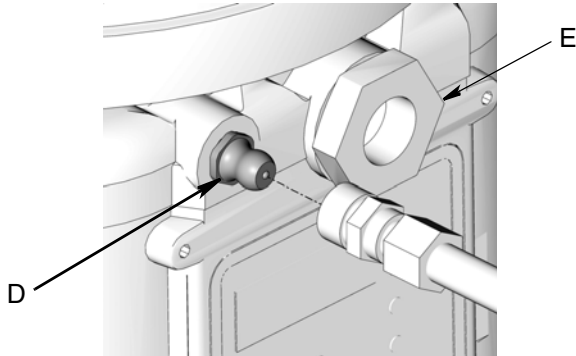

FIG. 23
1. Connect fill hose to inlet fitting (D) (FIG. 23).